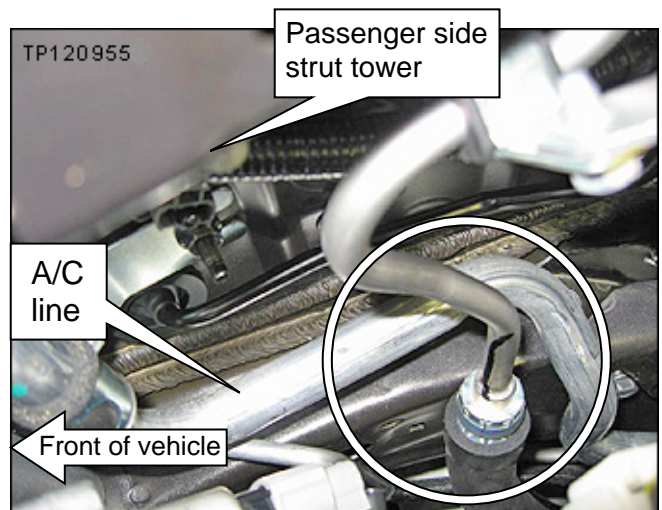

Figure 8
**NOTE:** The view in Figure 8 is downward from the inboard side of the passenger side strut tower.
- Check the location circled in Figure 8.